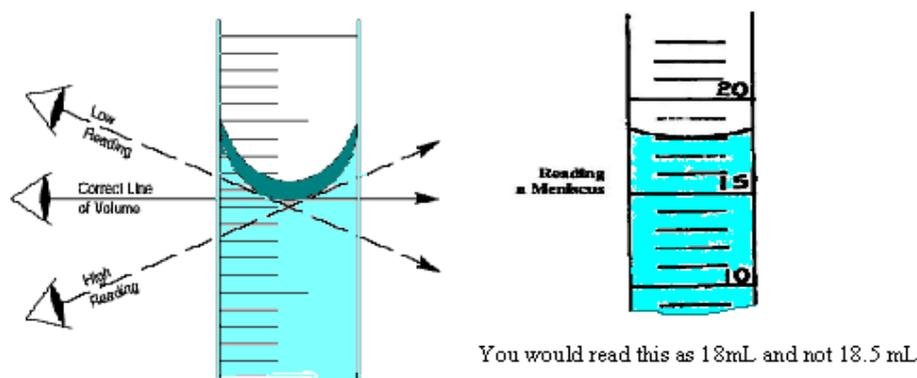

Figure 1.2: Proper technique for reading a burette or a graduated cylinder
- When the volume of water and water-solutions are read in a container, you will notice that there is a curved surface at the top of the liquid. This is called the meniscus. Always read the bottom of the meniscus (figure 1.2).